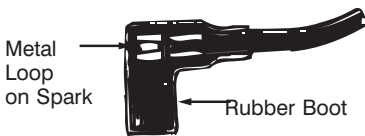

Figure 7
- Attach spark plug wire to spark plug. If unit is equipped with a rubber boot over the end of the spark plug wire, make certain the metal loop on the end of the spark plug wire (inside the rubber boot) is fastened securely over the metal tip on the spark plug. See figure 7.